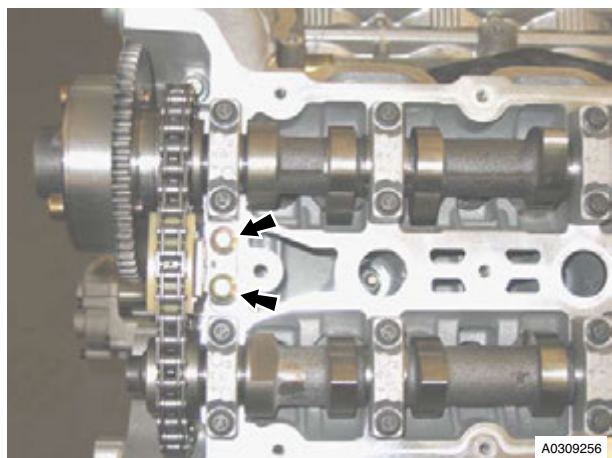

Figure 2
3. Remove the two bolts that attach the secondary timing chain tensioner to the cylinder head (refer to Figure 2).